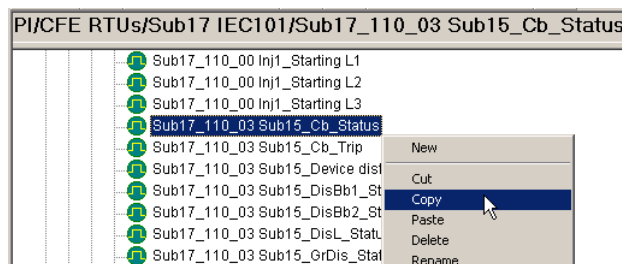

Figure 1-2.19: Copying an Instance
1. Select the data point to be copied: click-right select **Copy** (Figure 1-2.19)